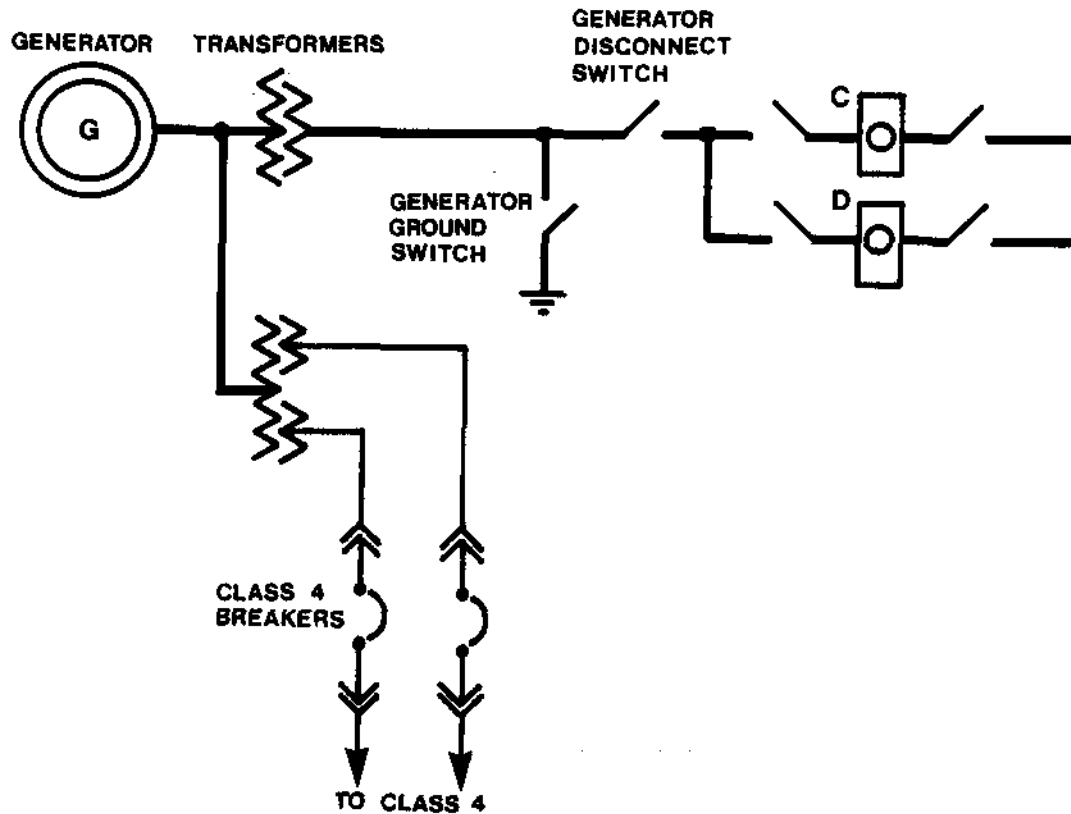

Figure 7: Generator Disconnection Switch and Generator Ground Switch.
5.4.3 Generator Disconnect Switches. Generator disconnect switches provide isolation between the generator (including the main transformer) and the switchyard, see Figure 7.